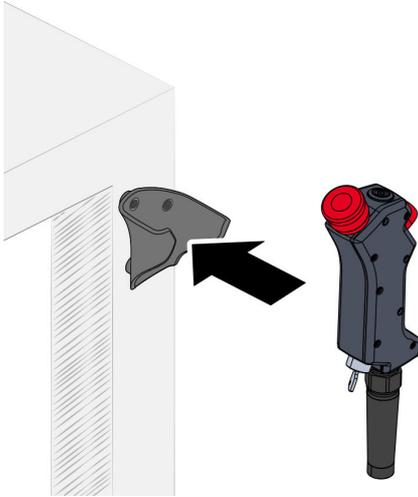

Fig. 52 Inserting the handheld controller
21. Insert the handheld controller into the bracket Fig. 52.